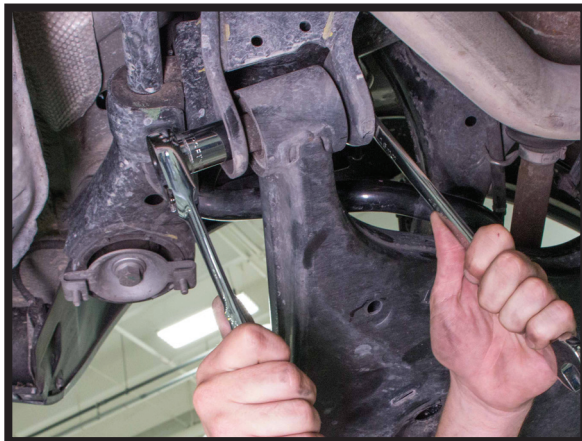

FIGURE 43
14. LOOSEN BUT DO NOT REMOVE THE LOWER INNER CONTROL ARM BOLTS. (FIGURES 43, 44)